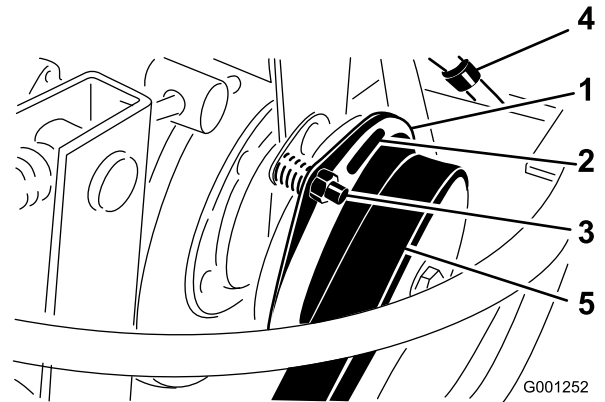

Figure 95
- Adjust the air gap so that a 0.4 mm (0.015 inch) feeler gauge slides in between the clutch lining and friction plate with light pressure (Figure 95).
Note: You can decrease the gap by turning the adjusting nut clockwise (Figure 95). The maximum service gap is 0.7 mm (0.030 inch). Adjust all 3 air gaps.